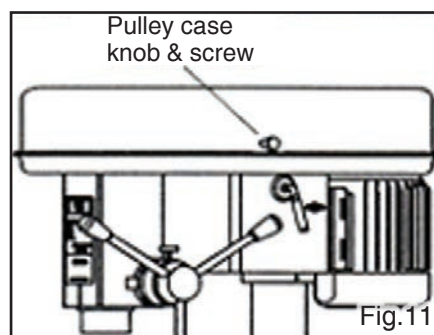

Fig.11
8. Install knob and screw of upper pulley cover. Fig. 11.